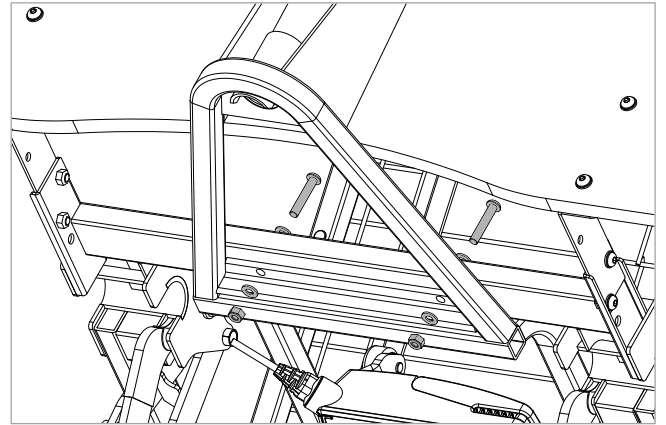

Figure 7.5
5. Fix the Lifting Pole Bracket in position with the M8 bolts, nuts, and washers (see Figure 7.5). Tighten the bolts and nuts using the 5mm Allen key and the 13mm spanner. Ensure the bracket is securely fitted and there is no movement between the bracket and bed frame bar.